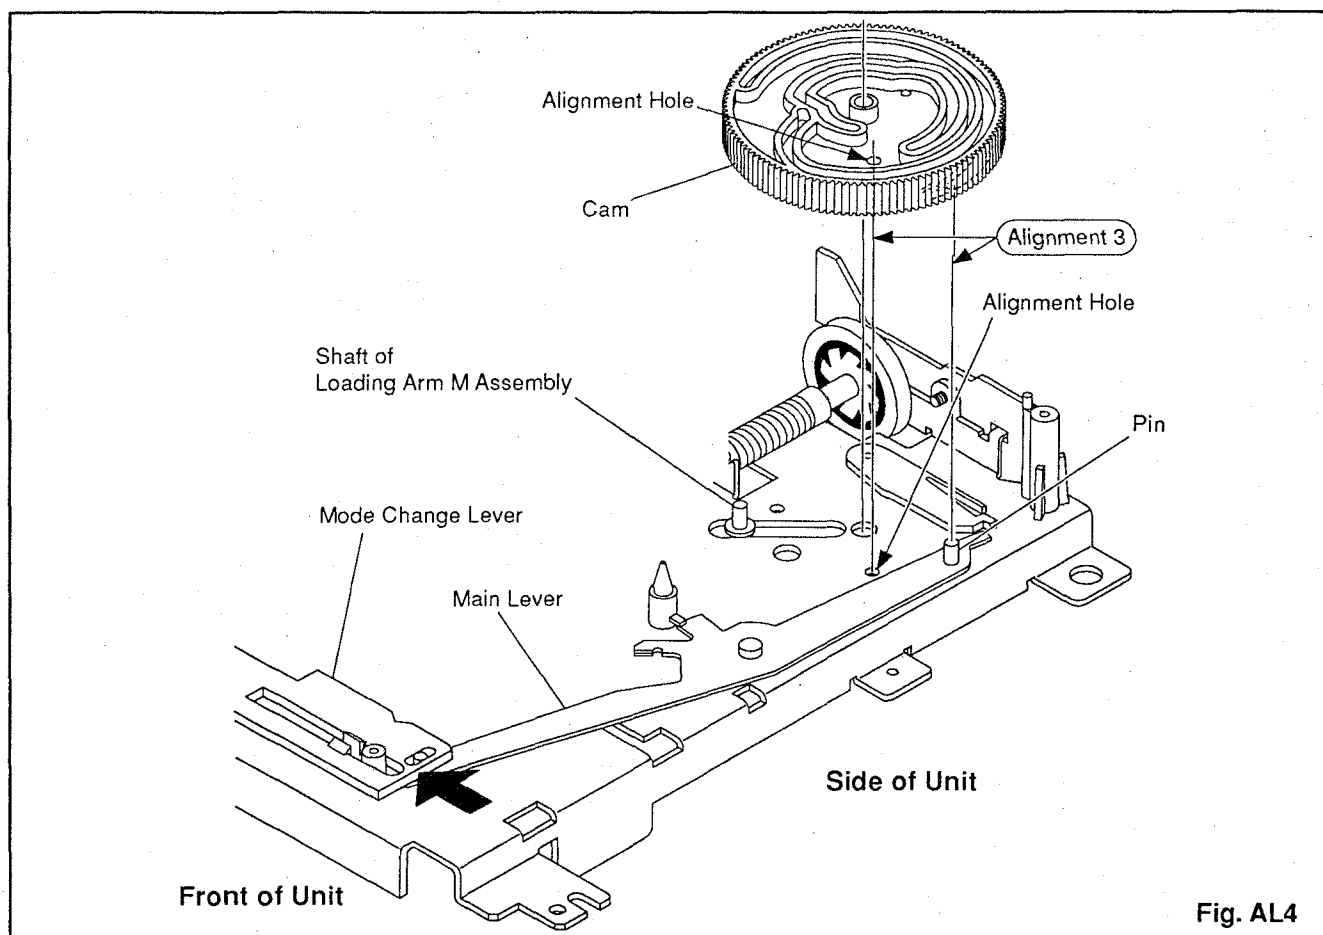

Fig. AL4
1. Make sure that the mechanism is in Eject mode so that the shaft of Loading Arm M Assembly is in the position shown in Fig. AL4.
4. After installing the Cam, make sure that the alignment hole of the Cam is still aligned with the base hole and that the pin on the Main Lever is inserted into the proper groove of the lower Cam as specified in Fig. AL4.